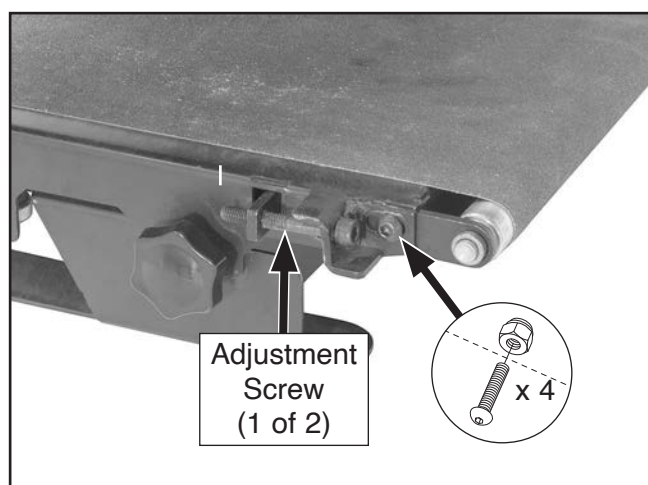

Figure 35. Conveyor belt adjustment components (left side shown).
- If belt slips on rollers, rotate both roller adjustment screws (see **Figure 35**) evenly counterclockwise to increase tension.
- If belt tracks toward right, rotate right roller adjustment screw (see **Figure 35**) counterclockwise to move belt left.
- If belt tracks toward left, rotate left roller adjustment screw (see **Figure 35**) counterclockwise to move belt right.
Note: If roller does not move, (4) lock nuts on button head cap screws shown in **Figure 35** may need to be loosened.